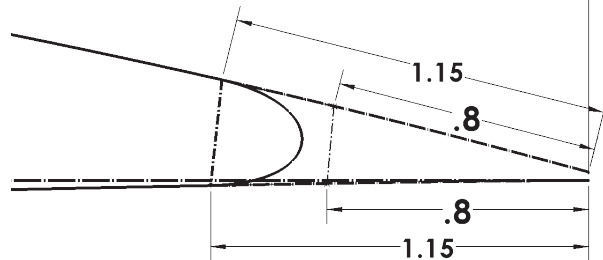

Fig. 39
Step 27. Click **Smart Dimension**  (S) on the Sketch toolbar.
Step 28. Add dimensions, **Fig. 39**.